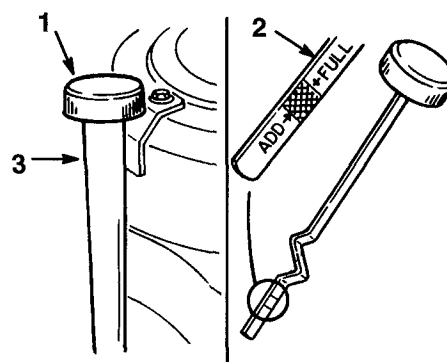

Figure 17
3. Clean around the oil dipstick (Fig. 17) so dirt cannot fall into the filler hole and damage the engine.
4. Unscrew the oil dipstick and wipe the metal end clean (Fig. 17).
5. Slide the oil dipstick fully onto the filler tube, do not thread onto tube (Fig. 17). Pull the dipstick out and look at the metal end. If oil level is low, slowly pour only enough oil into the filler tube to raise the level to the "FULL" mark.
7. Slowly pour approximately 80% of the specified amount of oil into the filler tube (Fig. 17). Now check the oil level; refer to Checking Oil Level, page 19. Slowly add additional oil to bring to "FULL" mark on dipstick.